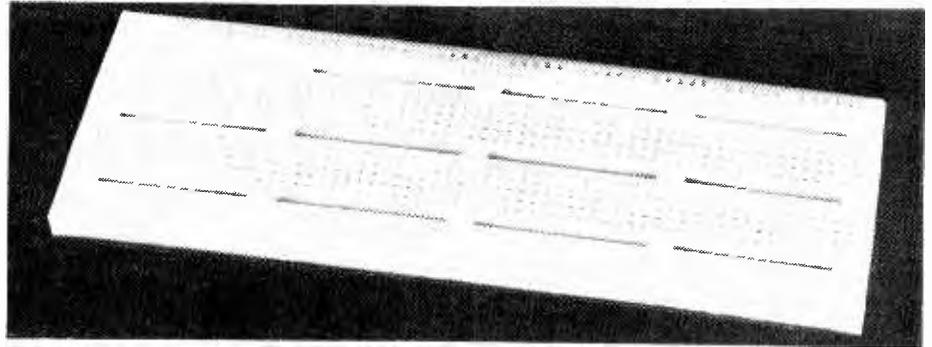

Fig. 4
**Super Strip**, see Fig. 4, measures 165 × 57mm and follows the pin connection system in Fig. 1(a). The layout will accept 0.3in i.cs, or 0.6in types by sacrificing some potential connection points. Most other discrete components can be accommodated with lead diameters up to 0.81mm. The layout has 640 main sockets in a 0.1in matrix which is arranged as two columns, each of 64 rows containing five interconnected sockets. Four extra rows, each with two